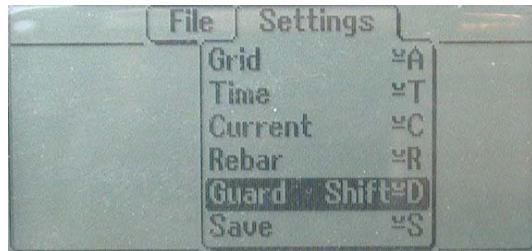

Fig .14. Settings display, guard
- Press the *Menu* key. Fig. 14.